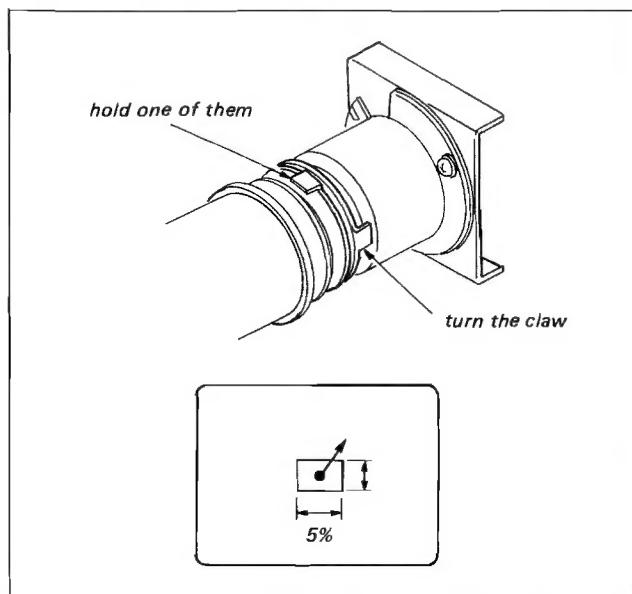

Fig. 8-2. Alignment magnet adjustment
- (1) While holding one of the two alignment magnets with finger securely shown in Fig. 8-2, turn the other magnet slightly to find the point where the object (in the center of the monitor screen) shift is within 5% of the monitor size even though R7 (FOCUS)/PA-1 is turned 45° and is then turned 45°.